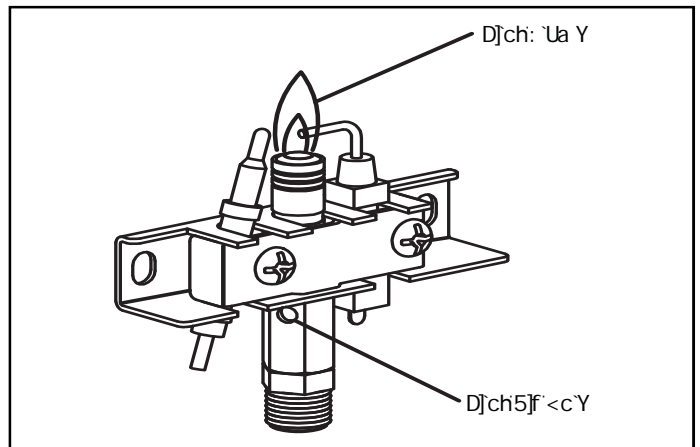

Fig. 5 - Pilot Assembly
- 4 Inspect and clean pilot (mounted to bracket) by using a vacuum or apply air pressure through the holes in the pilot indicated by the arrows in Figure 5.